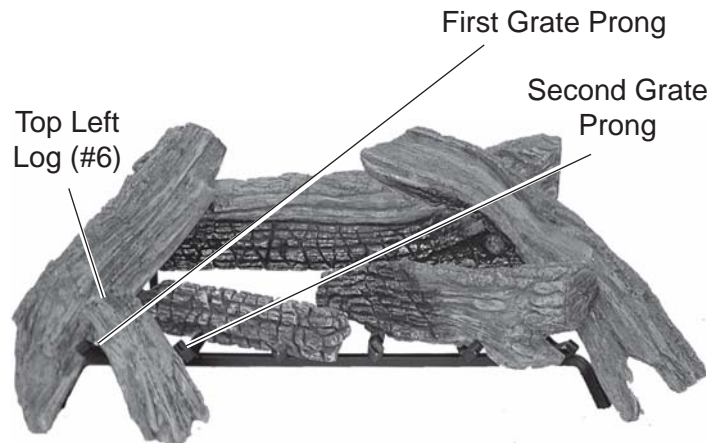

Figure 89 - Resting Top Left Log (#6) on Bottom Left Log and Back Log
7. Place end of Top Left Log #6 on bottom left log. Rest the other end between the first and second grate prongs. See Figure 89.